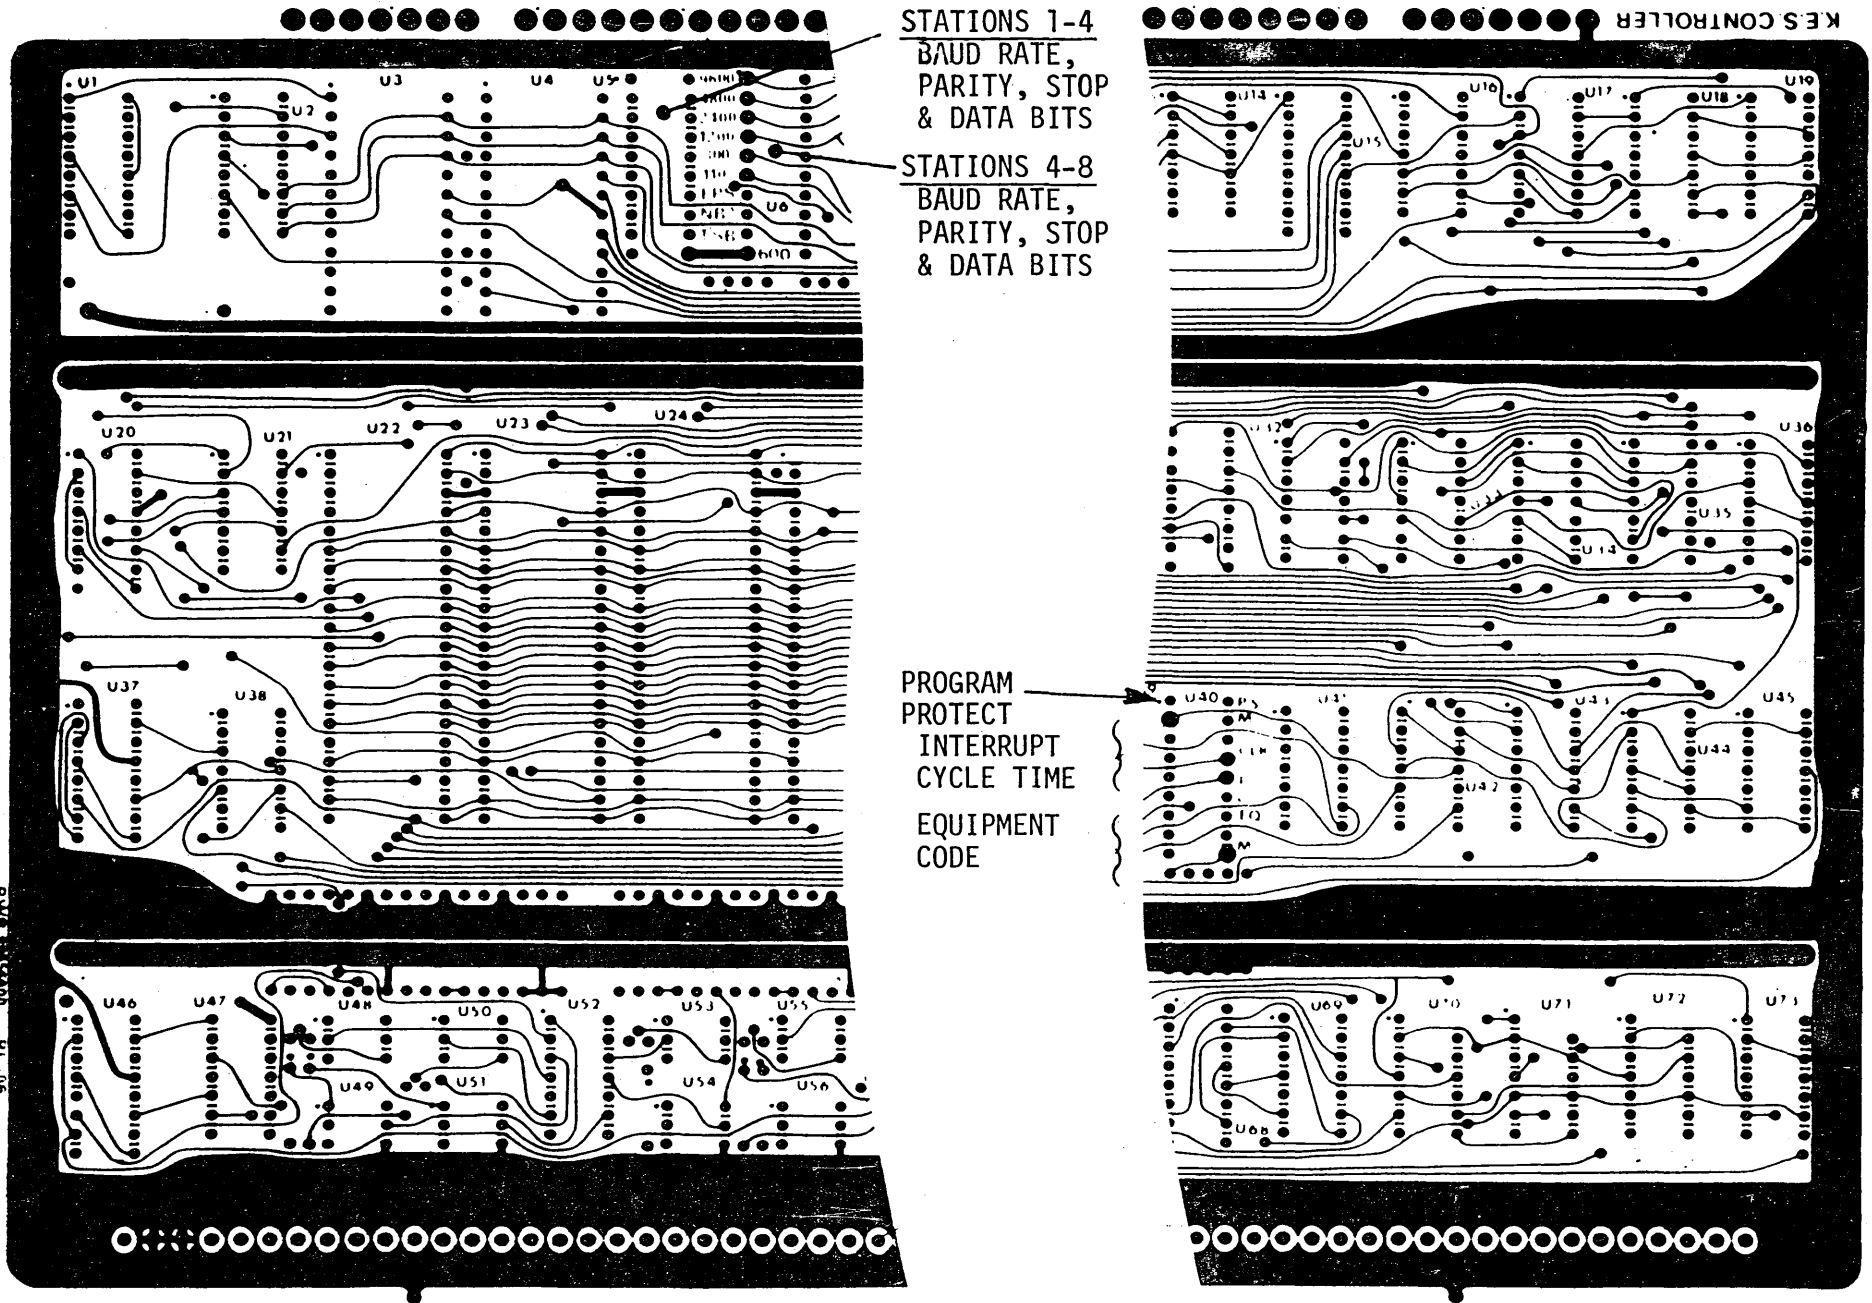

Figure 3-2. Locations for Internal Select Jumper Plugs on PWB
- Place the internal select jumpers in the positions on the card as described in tables 3-1 through 3-3. Table 3-4 lists the settings for the equipment number selection jumper plugs. Location of the internal select positions are shown in figure 3-2.
*See figure 3-2.
*See figure 3-2. **See table 3-4.